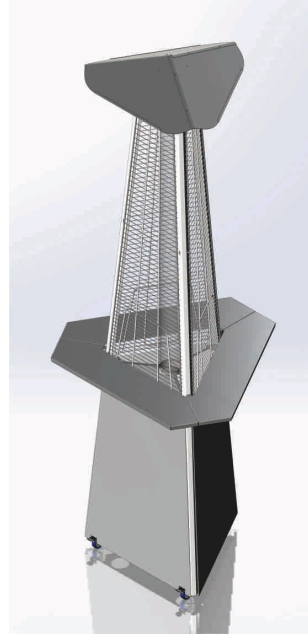

Fig. 22
10. Reinstall the side and main covers. Tighten the screws that secure the side covers. Assembly is complete (Fig. 22).